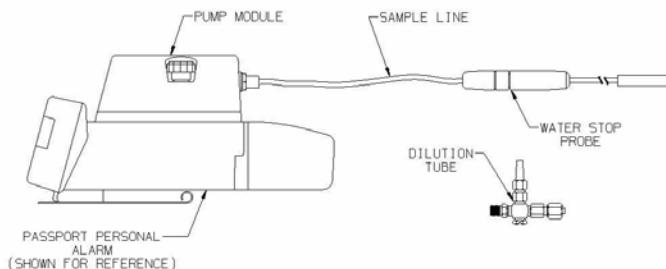

Figure 1. Passport Unit with Pump, Water Stop Probe and Sample Lines
1. Using a calibrated instrument unit without the dilution tube, take and record an oxygen reading from the inert area (FIGURES 1 and 2).